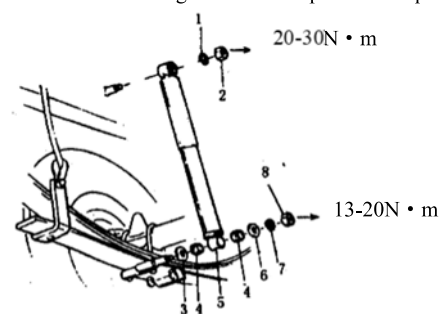

Fig.3.5-9
- (1) Install the retarder by referring to Fig.3.5-9.
- (2) Tighten the nut.